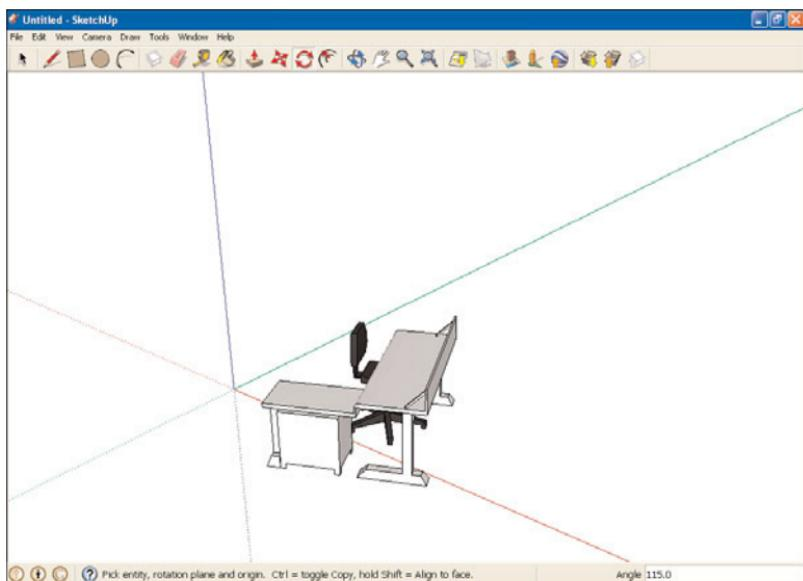

FIGURE 8.3 A rotated object.
14. Click the mouse to lock the object in its rotated position. You can see the new position of the desk in our example in Figure 8.3.